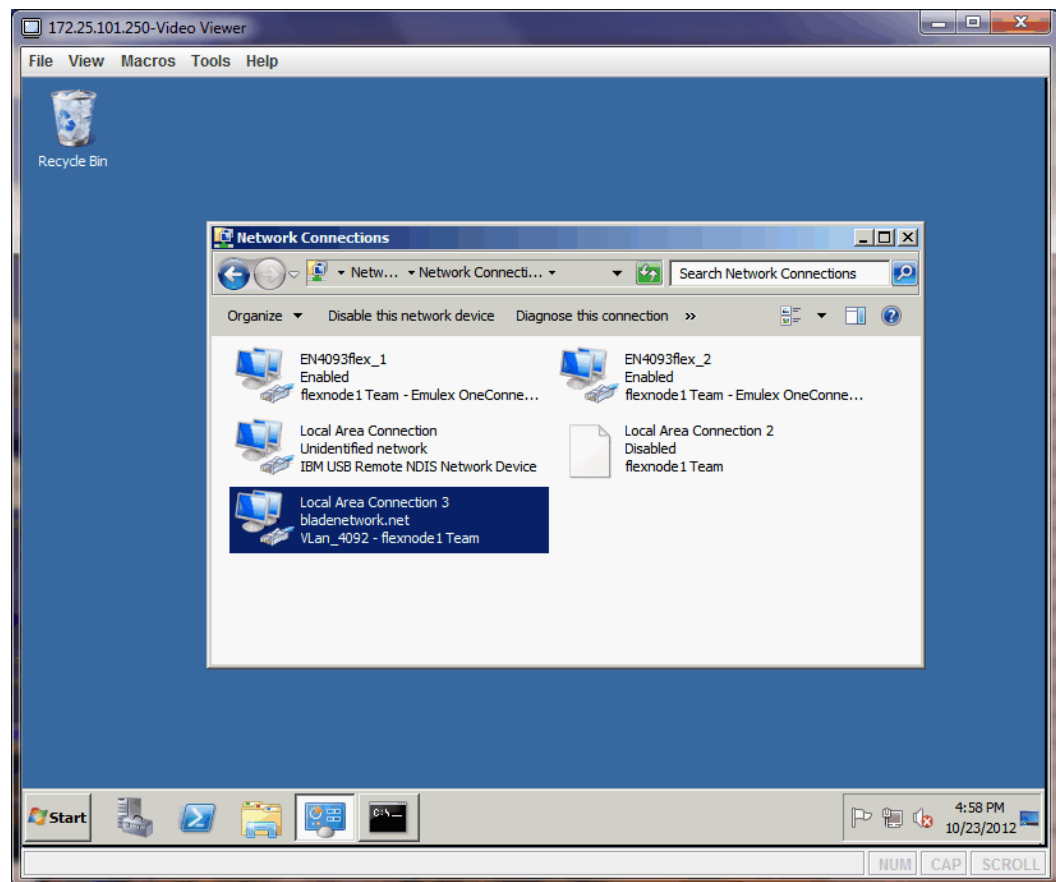

Figure 5-10 Selecting the new NIC Team device in Network Connections to apply a management IP address to
- To statically assign an address to the new NIC Team formed in the previous steps, we must go back to the Network Connections panel in Windows and modify the newly created LAN connection, as shown in Figure 5-10.